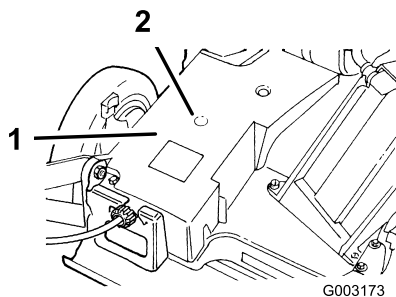

Figure 21
2. Install a grease gun onto the fitting through the belt cover opening (Figure 21).